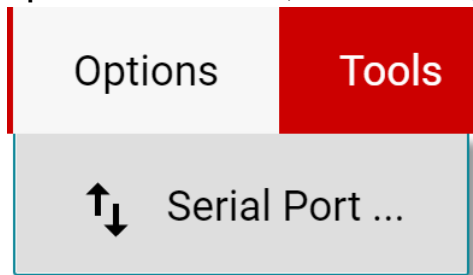

Figure 4-8. Change Serial Port
- b. If **Hardware Connected** and **DEVICE CONNECTED** do not show in the GUI, check the different hardware COM ports under **Options >> Serial Port**, as shown in Figure 4-8.